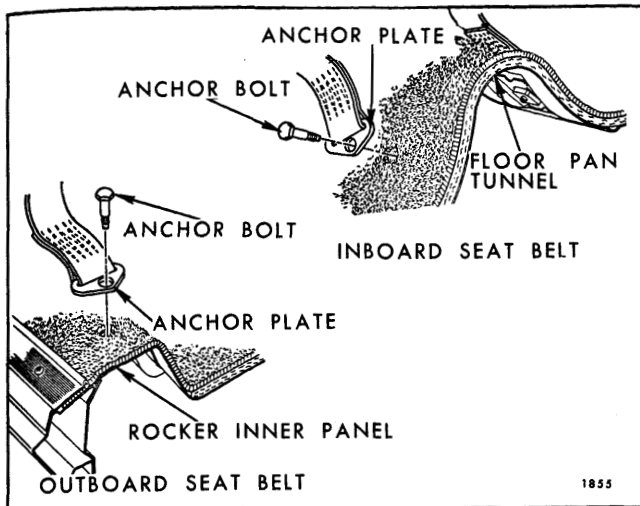

Fig. 10-77—Standard Seat Belt Attachments
1. Remove bolt on outboard seat belt anchor plate at rocker inner panel and inboard seat belt anchor plate on side of floor pan tunnel. (See Fig. 10-77).
1. Remove bolt securing seat belt anchor plate from side of floor pan tunnel. (See Fig. 10-77)
1. Remove bolt securing seat belt anchor plate from side of floor pan tunnel. (See Fig. 10-77).